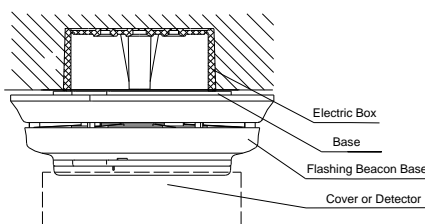

Fig. 2
- 2 Installation schematic of the flashing beacon base is shown in Fig. 2.